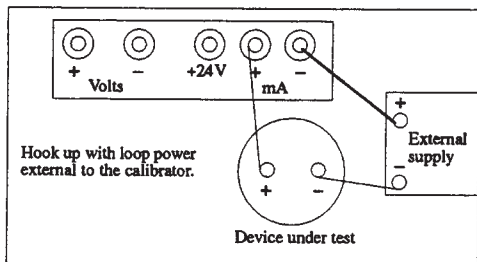

Figure 1.
4. Electrical connections for milliamps are shown in Figures 1 and 2.